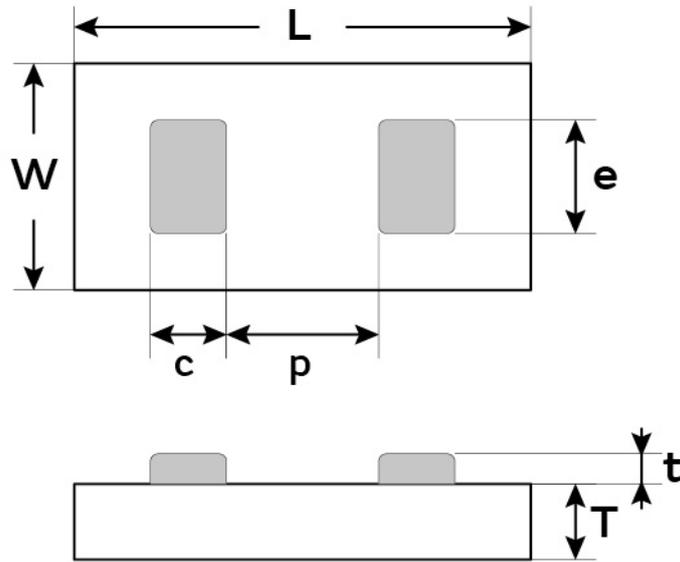

Figure 9 - Package outline drawing
- (1) Other Film Frame Carrier are possible on request
- (2) SAC = ENIG (0.1µm Au / 5µm Ni) + SAC305 type 6 or ENIG 0.1µm Au / 5µm Ni
- (3) Missing capacitors can reach 0.5%
- (4) Refer to Figure 9
- (5) Dedicated for Pre-Production
- (6) For all demands including Mass Production